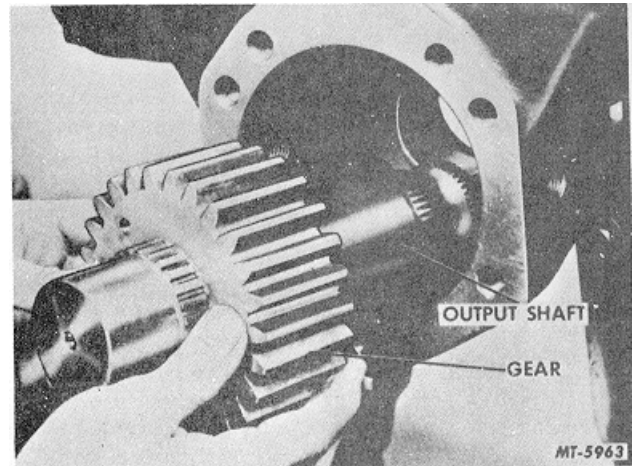

Fig. 10
7. Lift output shaft and gear assembly from the housing, Fig. 10.